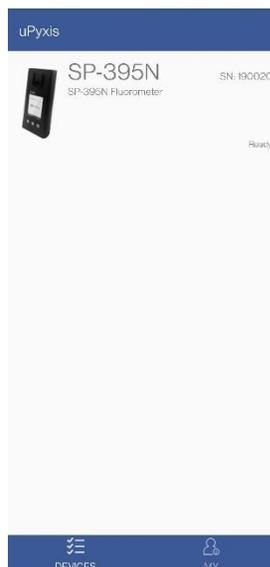

Figure 15.
4. If the connection is successful, the SP-395N and its Serial Number (SN) will be displayed (Figure 15).